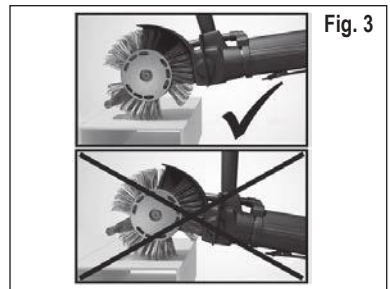

Fig. 3
8. To obtain the best performance, it is to be ensured the accelerator bar is guided close to the surface to be machined. If the Accelerator Bar is too far from the surface, the performance will drop significantly. See Fig. 3.